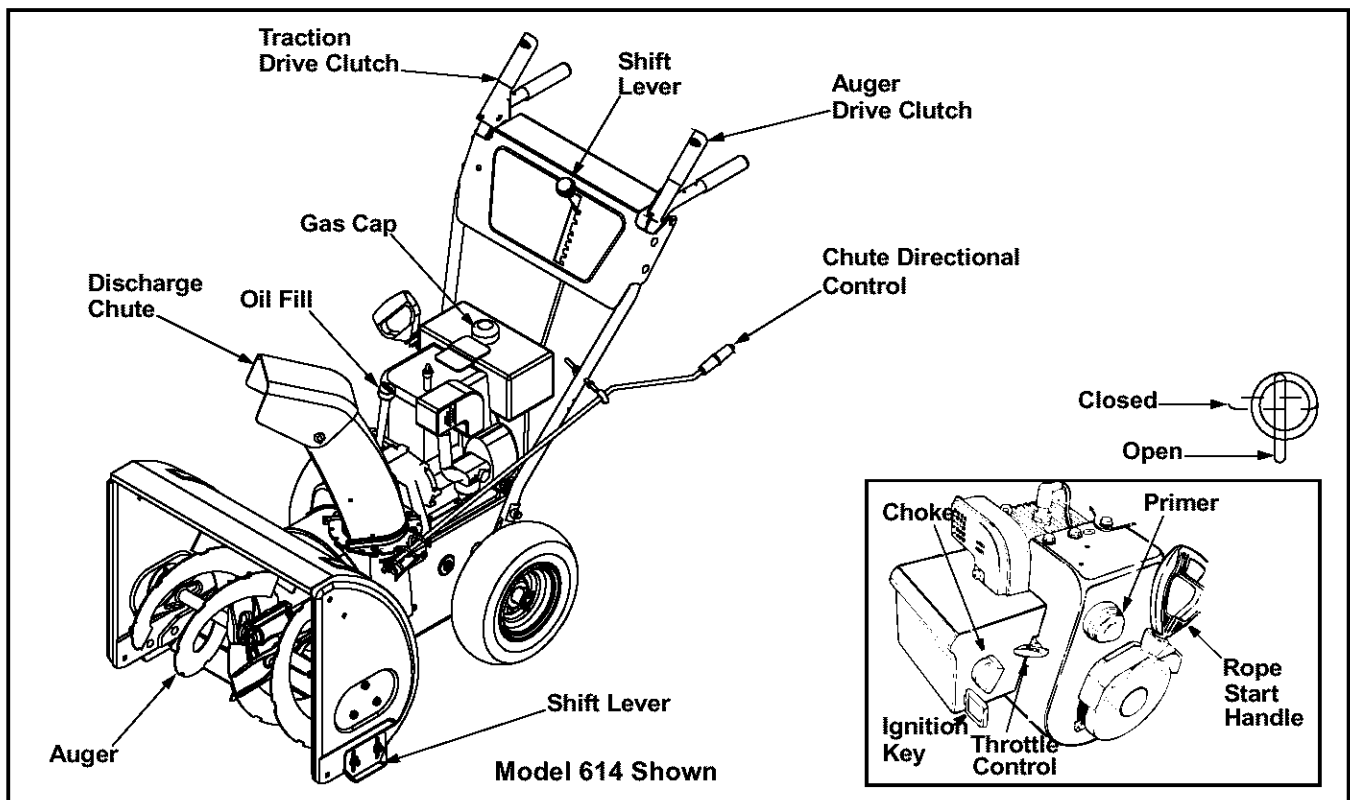

Figure 15
The shift lever is located in the center of the handle panel. The shift lever may be moved into one of six positions. Run engine with throttle in the fast positions. Run engine with throttle in the fast position. Use the shift lever to determine ground speed. See Figure 15.
The chute directional control is located on left side of the snow thrower. See Figure 15.
The position of the skid shoe is determined by the condition of the ground from where snow has to be removed. See Figure 15.
The throttle control is located on the engine. It regulates the speed of the engine and will shut off the engine when pushed down completely. See Figure 15.
The safety ignition key must be fully inserted in the switch before the unit will start. Remove the ignition key when the snow thrower is not in use. See Figure 15.
The fuel shut-off valve, located under the fuel tank, controls fuel flow from the tank. Always make certain it is in the Open (vertical) position before attempting to start the engine. See Figure 15.
- Make certain the fuel cut-off valve, if your snow thrower is so equipped, is in OPEN position. See Figure 15.